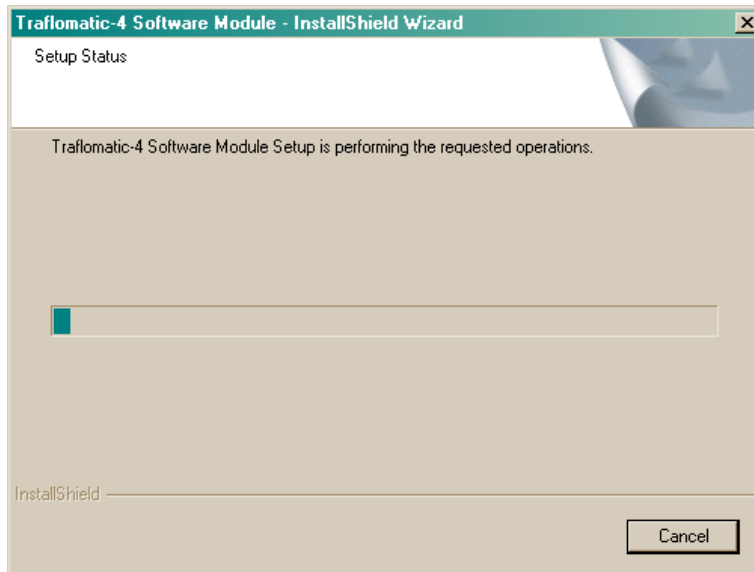

Figure 18
6. The Setup Status window will appear (Figure 18) showing the user the status of the installation procedure. Immediately upon completion of copying the FREEDOM Tool software, the Installation program will begin installing the necessary files for the Security Key Device. Upon the completion of the Security Key Software Installation a window similar to Figure 19 will appear. This window informs the user that the **Az-Tech Device Drivers Setup** is complete and the user should select Finish to complete the installation. At this time select the **Finish** pushbutton on the screen to complete the **Az-Tech Device Driver Setup** and continue with the FREEDOMWare Installation.